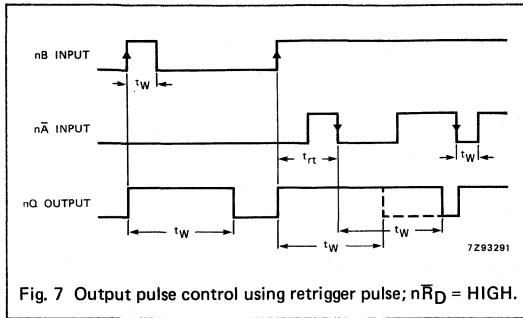
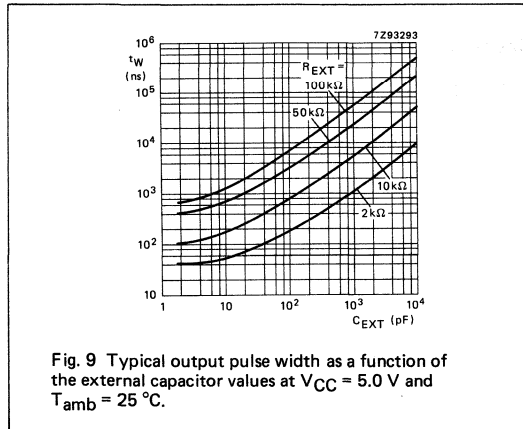

Fig. 7 Output pulse control using retrigger pulse; $n\bar{R}_D = \text{HIGH}$.
Fig. 9 Typical output pulse width as a function of the external capacitor values at $V_{CC} = 5.0 \text{ V}$ and $T_{\text{amb}} = 25^\circ\text{C}$.
Figures 7 and 8 illustrate pulse control by reset. The basic output pulse width is essentially determined by the values of the external timing components R_{EXT} and C_{EXT} . For pulse widths, when $C_{EXT} < 10\,000\text{ pF}$, see Fig. 9. When $C_{EXT} > 10\,000\text{ pF}$, the typical output pulse width is defined as:
1. For other R_{EXT} and C_{EXT} combinations see Fig. 9.